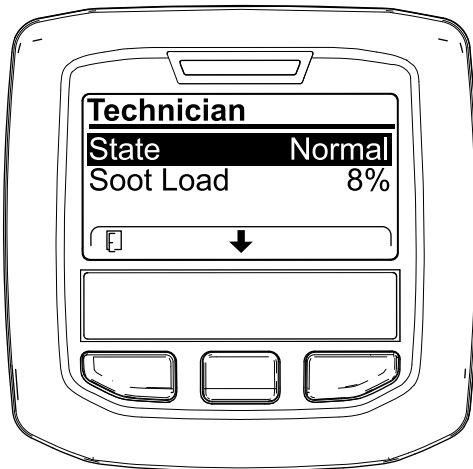

Figure 40
- Use the DPF operation table to understand the current state of DPF operation (Figure 40).